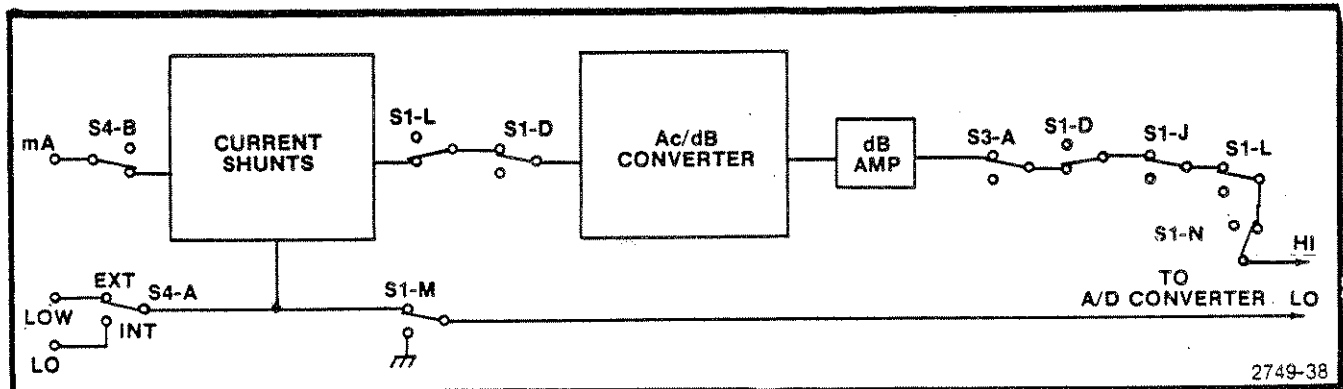

Fig. 3-3. dB switching.
**dB Input Circuitry** 1 (Refer to Fig. 3-3)